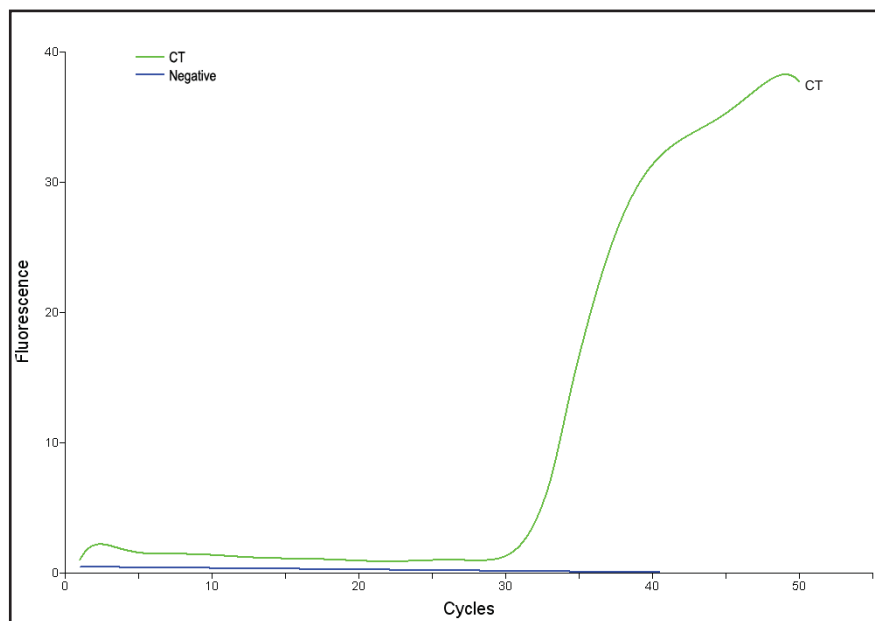

Figure 1. Real-time PCR result for *C. trachomatis*.
9. Example of real-time graph is depicted in Figure 1